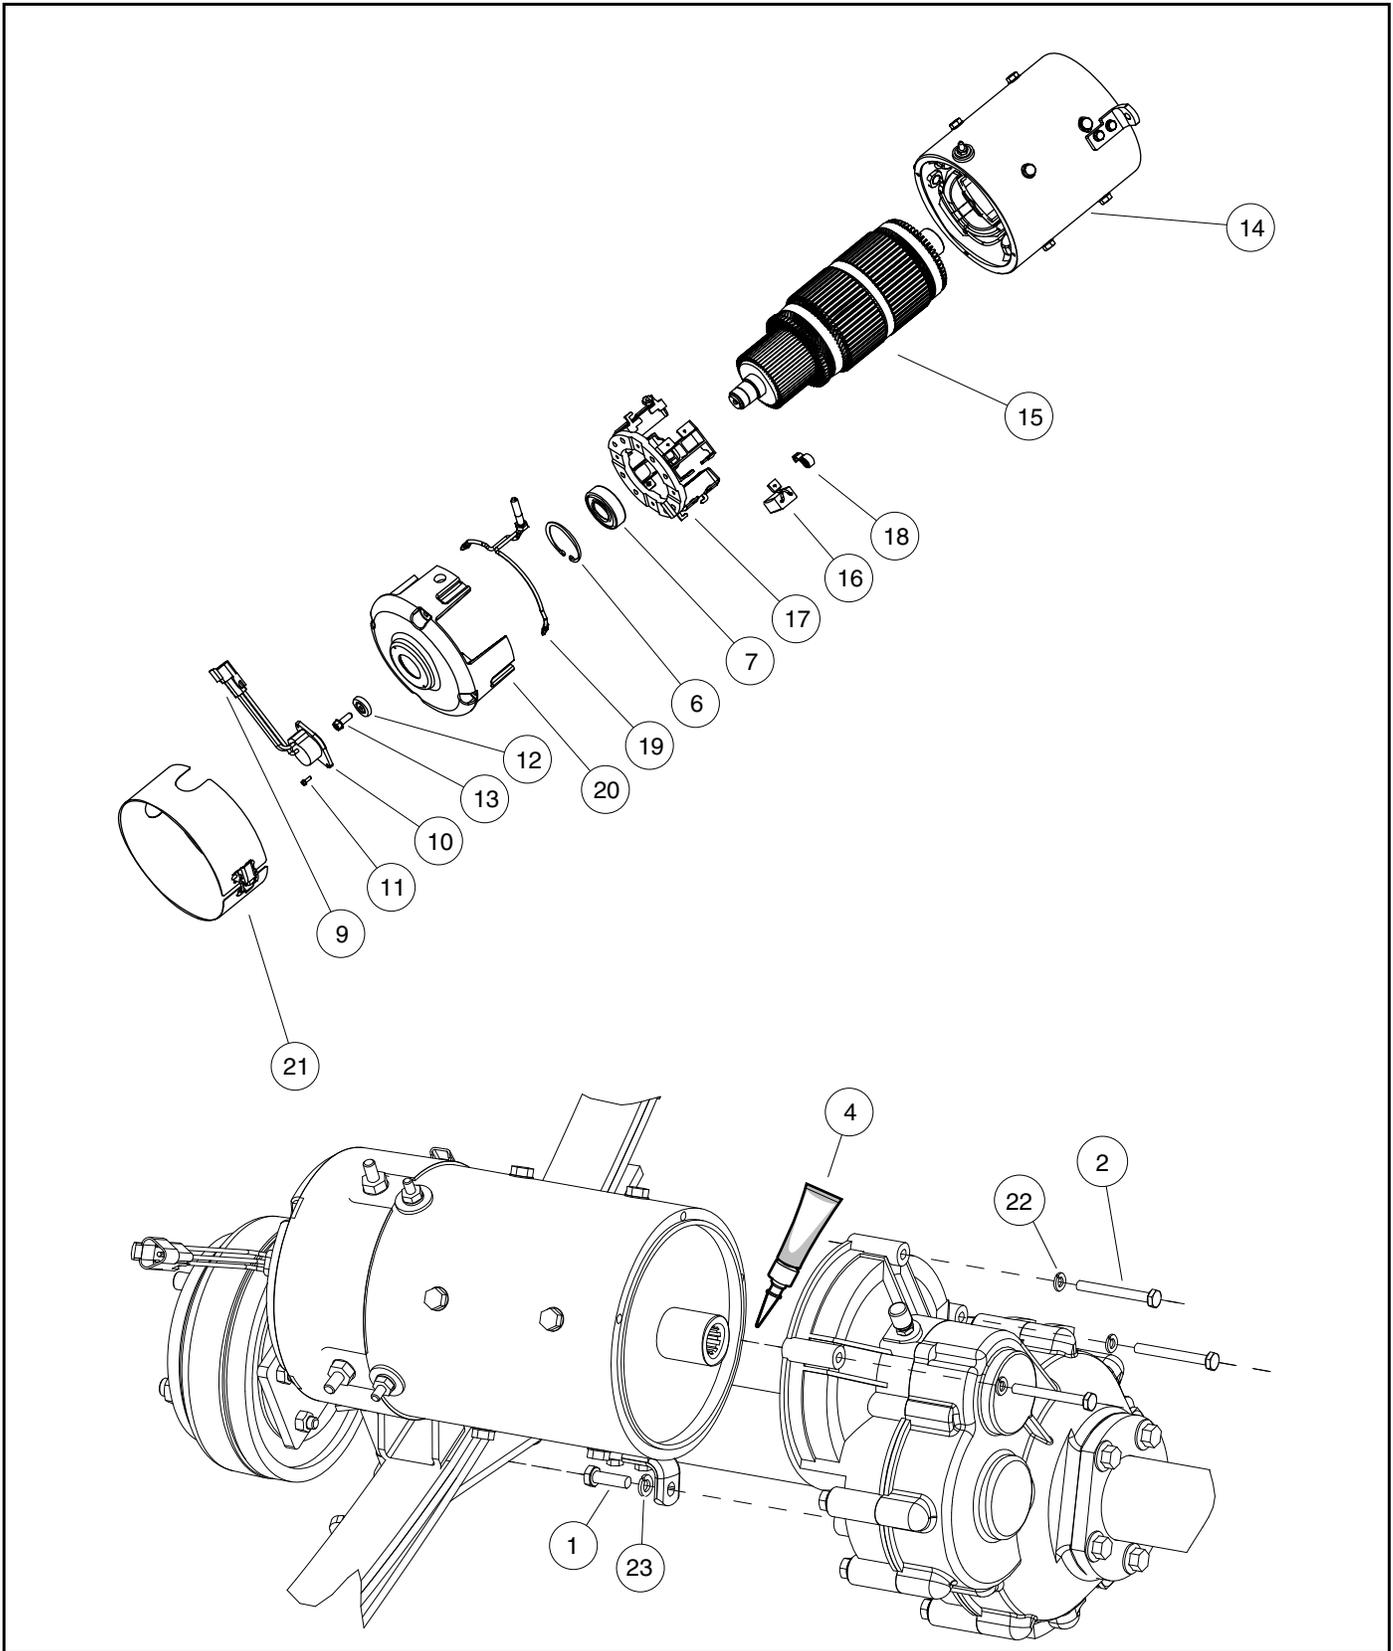

Figure 27-13 Motor
3. Inspect the brush springs (18) (**Figure 27-13, Page 27-10**). Replace springs that are discolored from heat (light gold or blue tinted).
3. Inspect the brushes (16) for damage or excessive wear (**Figure 27-13, Page 27-10**). Replace brushes if required. **See preceding NOTE.**
Inspect the speed sensor magnet (12) for rust, wear, and cracks (**Figure 27-13, Page 27-10**). Replace the magnet if necessary.
- 2.2. Insert the two terminal posts through insulators in the end cap (20) wall at the A1 and A2 positions (**Figure 27-13, Page 27-10**).
5. Align the match marks on the end cap (20) and the motor frame (14) and secure with four bolts (**Figure 27-13, Page 27-10**). Tighten bolts to 130 in-lb (14.7 N·m).
6. Install the speed sensor magnet (12) with bolt (13). Tighten to 65 in-lb (7.3 N·m).
7. Install the speed sensor (10) with two screws (11). Tighten to 25 in-lb (2.8 N·m).